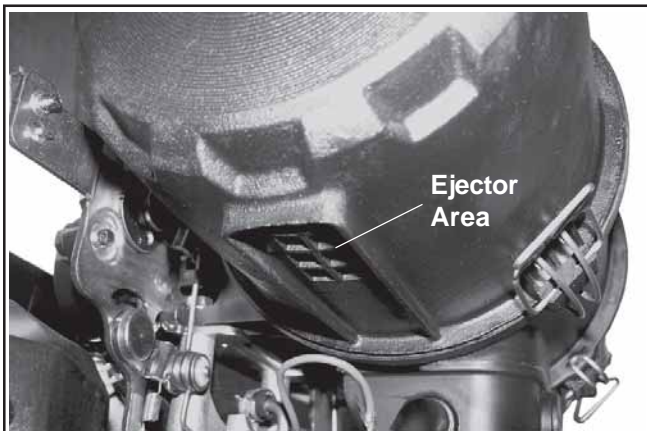

Figure 22. Ejector Area.
5. Check all parts for wear, cracks, or damage, and make sure ejector area is clean. See Figure 22. Replace any damaged components.